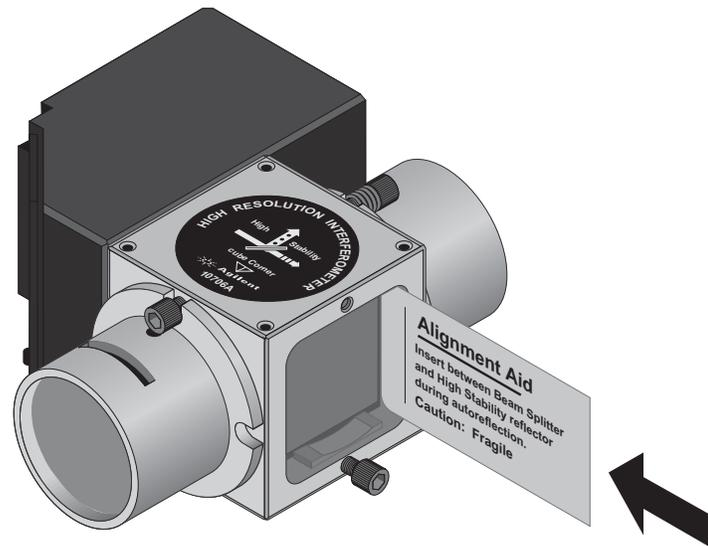

Figure 161 Using the Agilent 10706-60202 Alignment Aid
Alignment Aid Agilent Part Number 10706-60202 eases the autoreflexion alignment for the high stability adapter to achieve minimal thermal drift and maximum signal strength. It contains a quarter-wave plate to reflect the reference beam back on itself and return it to the laser without offset. Figure 161 shows how the aid is positioned between the beam splitter and the high stability adapter during alignment.
- 12 Insert the Alignment Aid (Agilent Part Number 10706-60202) between the now-exposed glass beam splitter and the reference reflector (the one with the four adjustment cap screws and two springs). See Figure 161. This will allow the reference beam to autoreflect back toward the small aperture on the laser head.